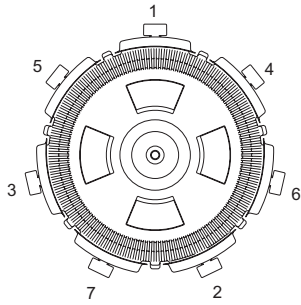

FIGURE 4 - 21" Filter clamp tightening sequence.
6. See Figures 4 and 5 for clamp tightening sequence. Tighten all clamp knobs securely hand tight.